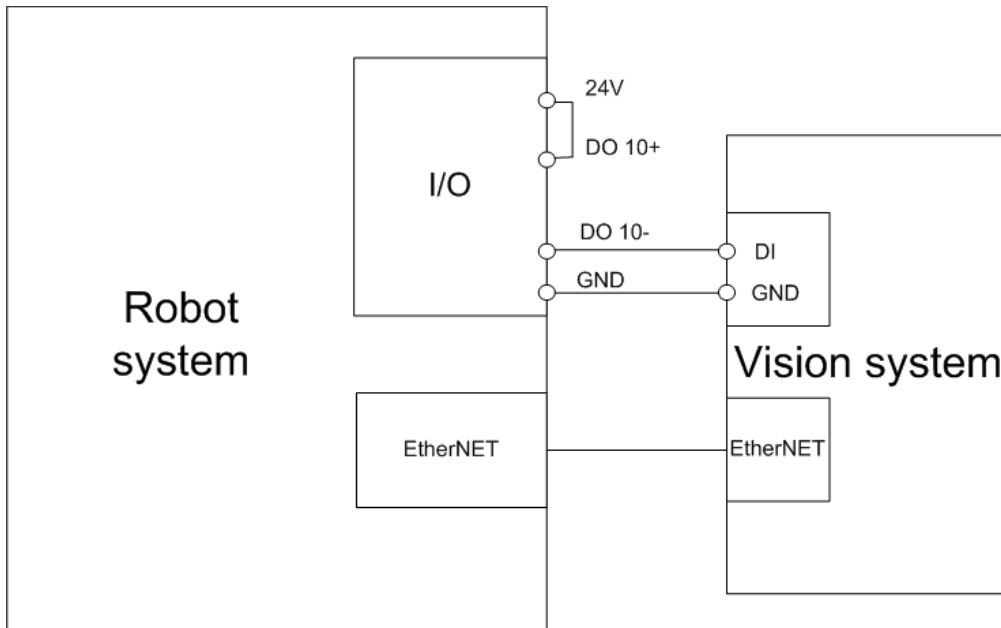

Figure 3.5 Vision system connection (2)
- If the robot system version is **V3.0.0.20190219121343** or later, the **DO 10** is triggered to take photos for detecting, as shown in Figure 3.5.